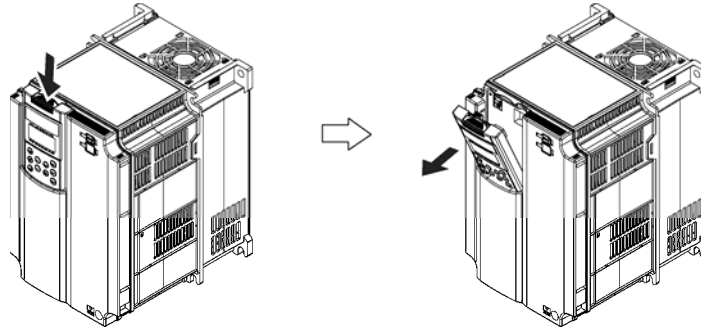

Figure 3.3-22 Removing a Keypad
- (1) Remove the keypad by pulling it toward you with the hook held down as directed by the arrows in Figure 3.3-22.